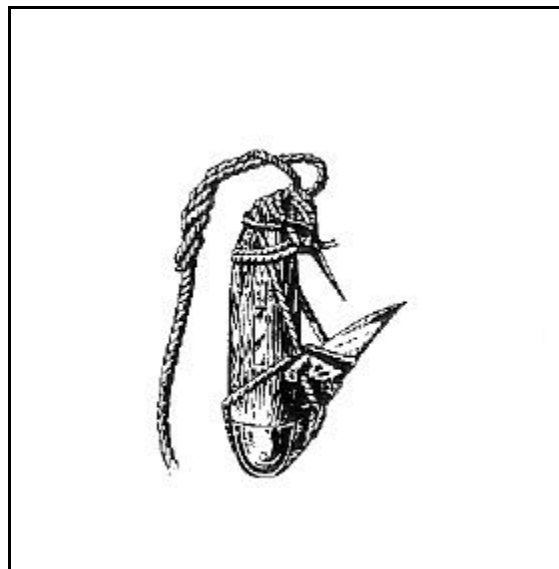

Figure 10-38. Fishhook Made
- A jackknife can be made into a large fishhook. Wedge the blade open with a piece of wood and tie as shown in Figure 10-38.